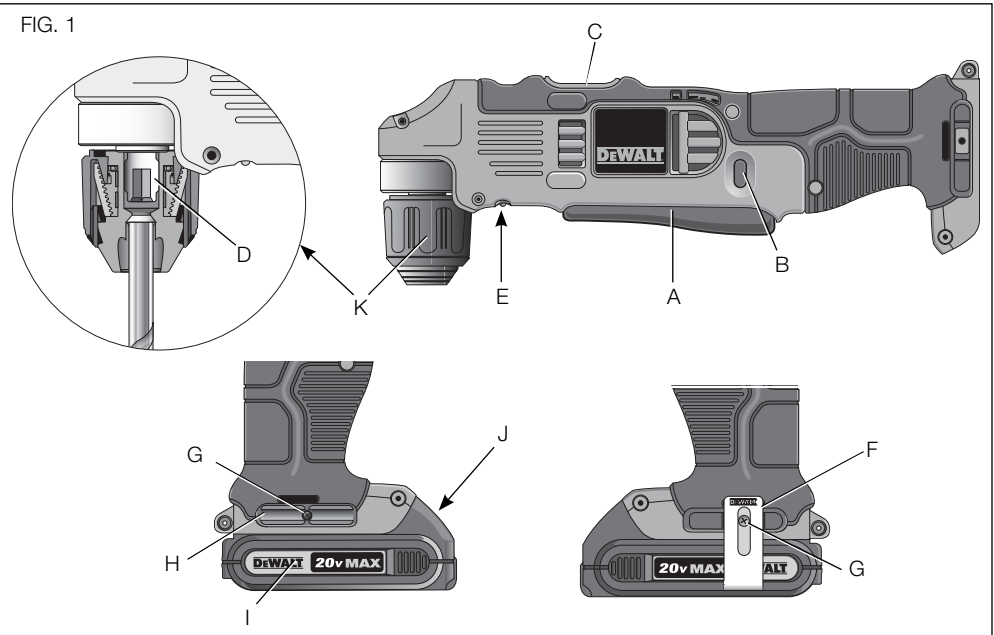

FIG. 2
Charging Procedure (Fig. 2)
- Insert the battery pack (I) into the charger, as shown in Figure 2, making sure the pack is fully seated in charger. The red (charging) light will blink continuously, indicating that the charging process has started.